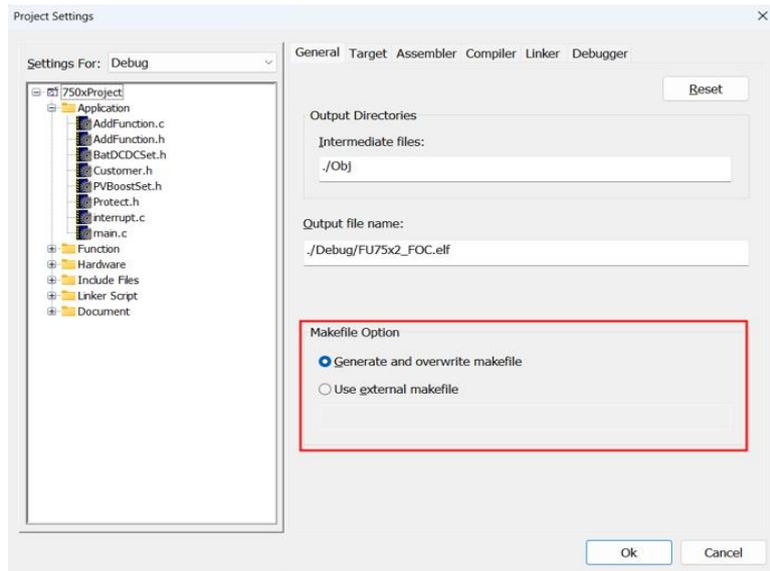

Figure 1-29
1. General: contains the directory and name of the output file and the selection of the makefile file. Among them, “Generate and overwrite makefile” automatically generates the makefile for the selected software; “Use external makefile” selects the makefile set by the programmer, as shown in Figure 1-29.